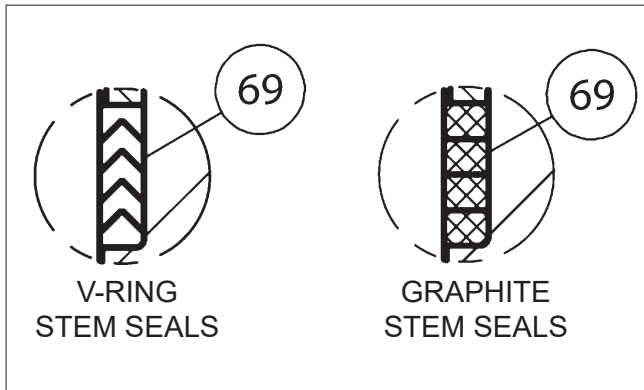

Figure 5. Stem Seal Orientation
- Insert the stem (5), through the cap end of the body, being careful not to scratch the stem sealing surface; and press it gently up into the stem bore until resistance is felt from the stem bearing. Holding the stem in place from the bottom, insert the stem seals (69) over the stem (5). (see **Figure 5** for proper V-ring and graphite seal orientation).